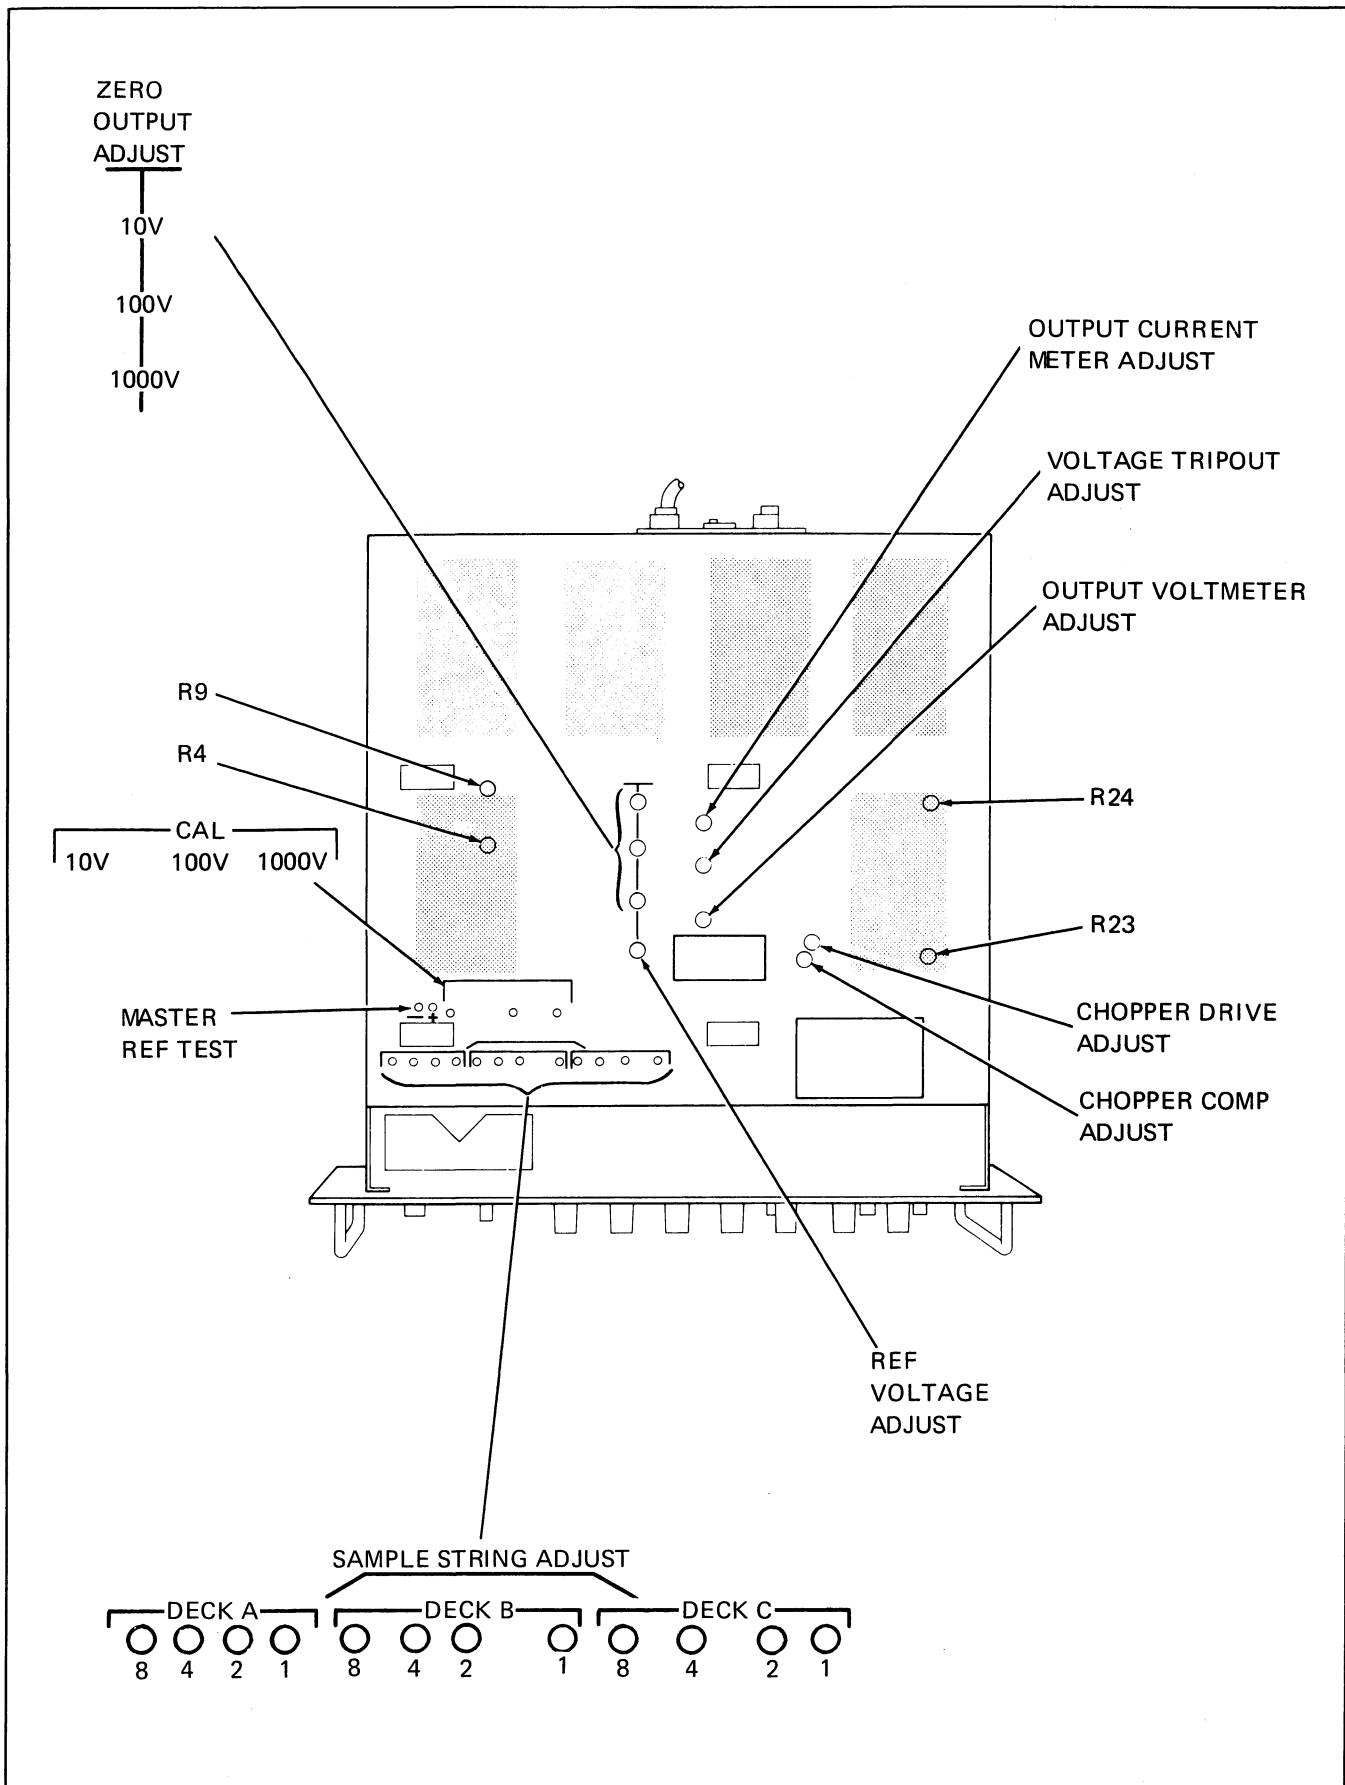

Figure 4-2. Outside Cover Removed
4. Set instrument vertically on handles and withdraw outside cover while guiding ac power cord through hole in rear of outside cover. See Figure 4-2.
3. Orient the instrument and perform the appropriate electrical connections as illustrated in Figure 4-2.